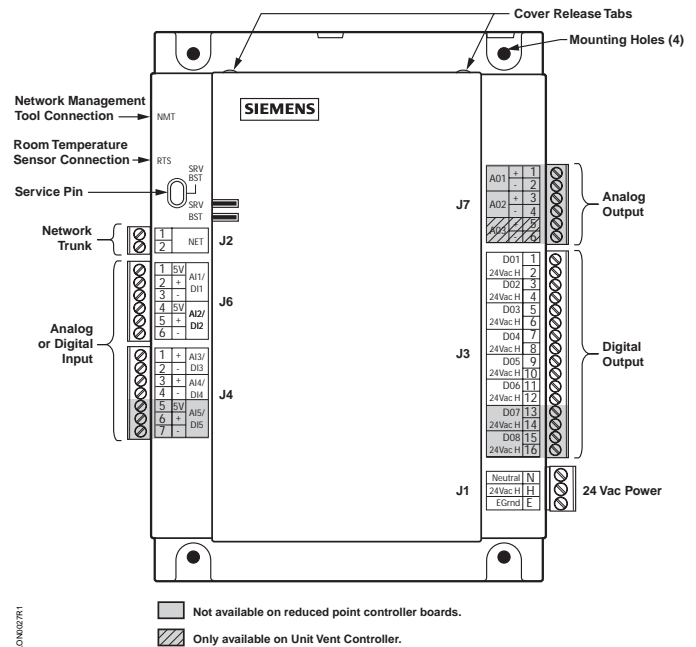

Figure 3. LTEC Wiring Designations.
3. Connect the Network Trunk (NOT polarity sensitive) cable to terminals 1 and 2 on J2, 'NET' (Figure 3).